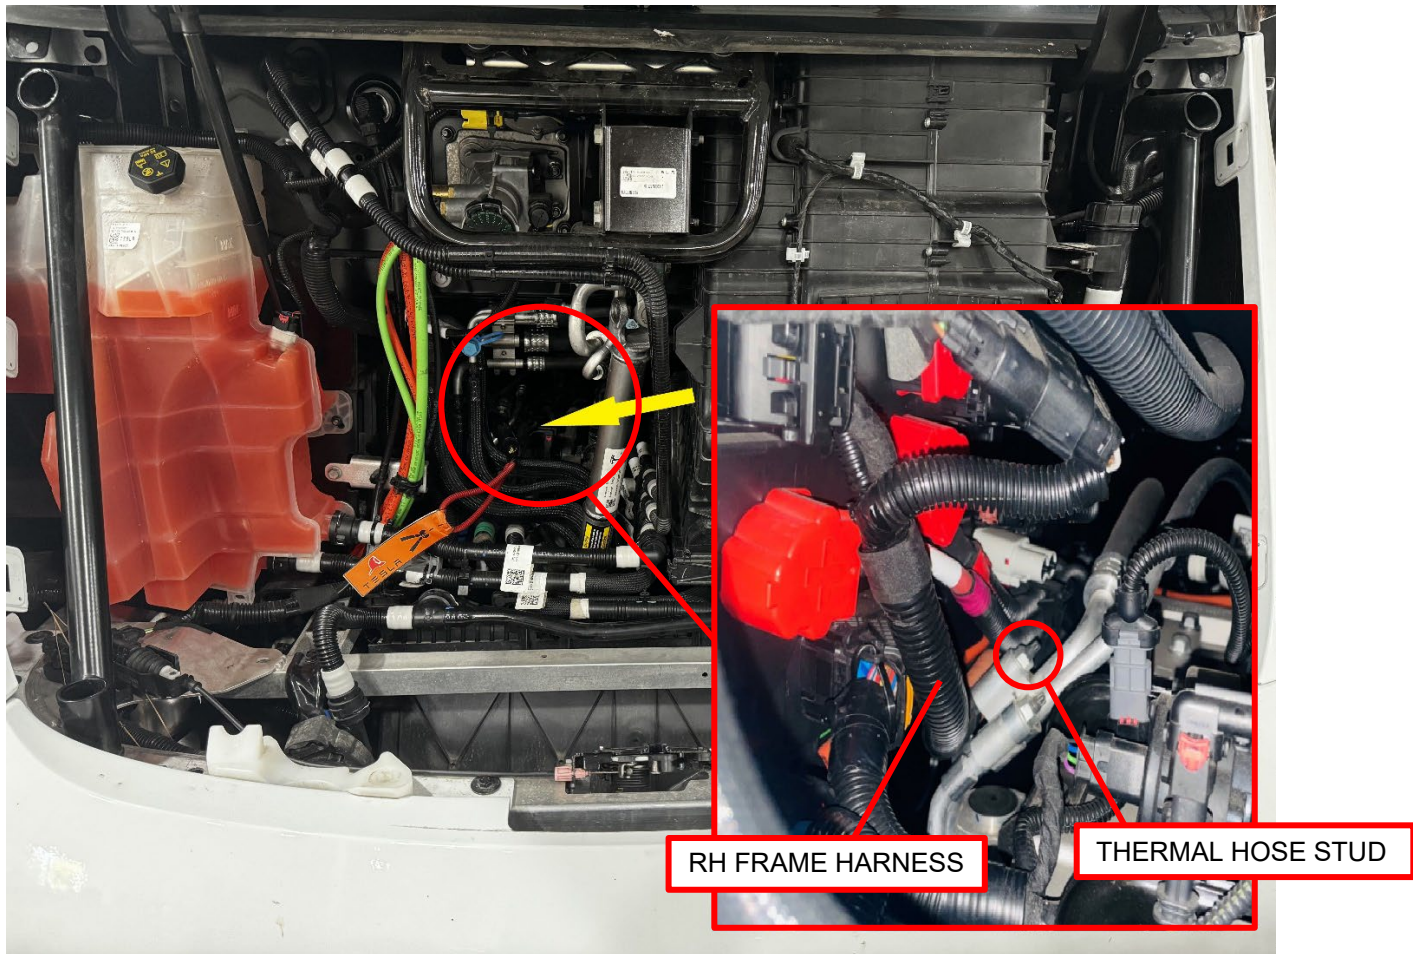

Figure 10 – RH frame harness inspection area
5. Inspect the RH frame harness for indications of damage or rubbing against the thermal hose (Figure 10).